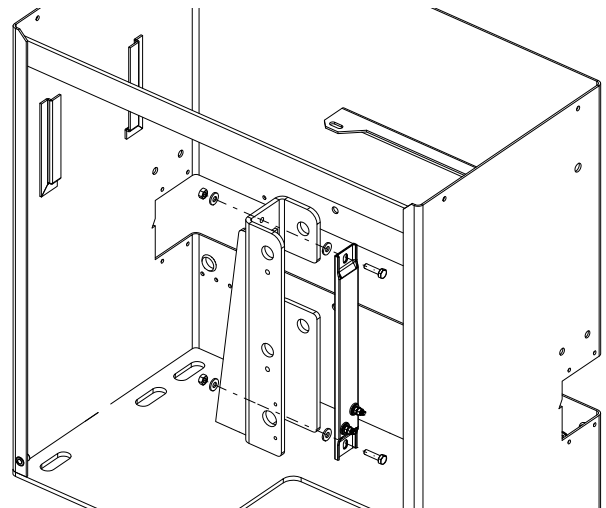

Figure 7. Install Heater Strip
10. Install the heater strip vertically in the drive post with the terminals down and facing out with the $\frac{1}{4}$ -20 x 1 in bolts (Figure 7).